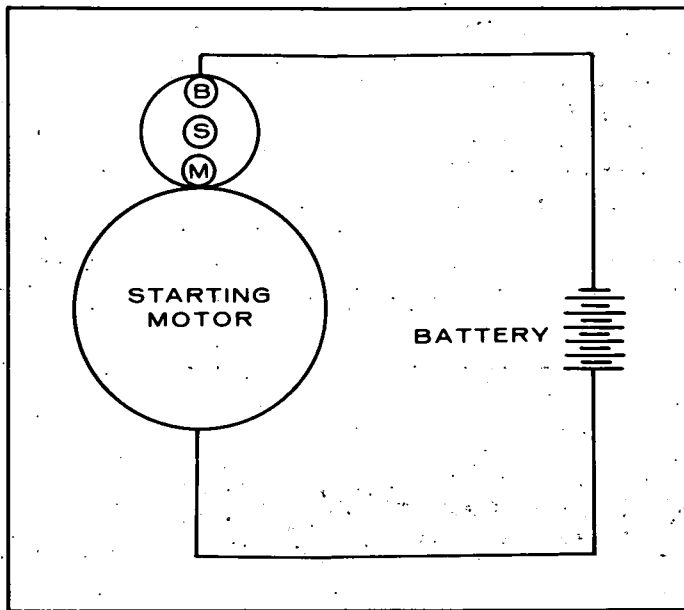
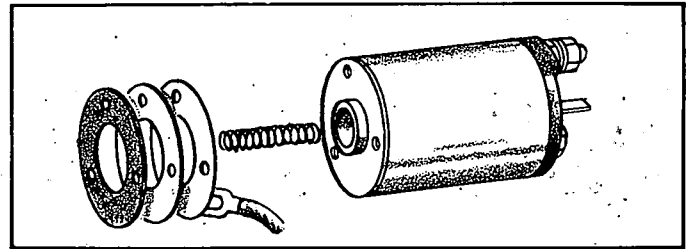

FIGURE 43. BATTERY CONNECTIONS
FIGURE 44. ADJUSTING PINION CLEARANCE
2. **Adjusting Pinion Clearance.** Connect the battery to the starting motor as shown in Figure 43. This will allow the pinion of the starting motor to slide and stop. In this state, measure the clearance between the end of the pinion and pinion stopper when the pinion is pushed lightly toward the commutator end. Clearance should be .02" to .06". Adjust for proper clearance by removing the magnetic switch attaching screws and select proper thickness of the fiber packings shown in Figure 44.